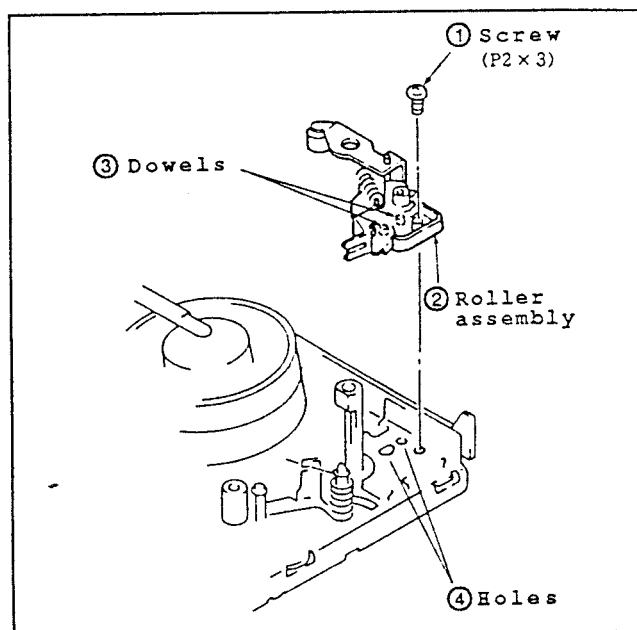

Fig.II-7
- Disassembling (Fig.II-7)
- (1) To dismount the roller assembly ②, removes a screw ①.
- Reassembling (Fig.II-7)
- (1) Install the roller assembly while aligning the two dowels with the two holes ④ at mechanical chassis.
- (2) Secure the roller assembly ② with a screw ①.